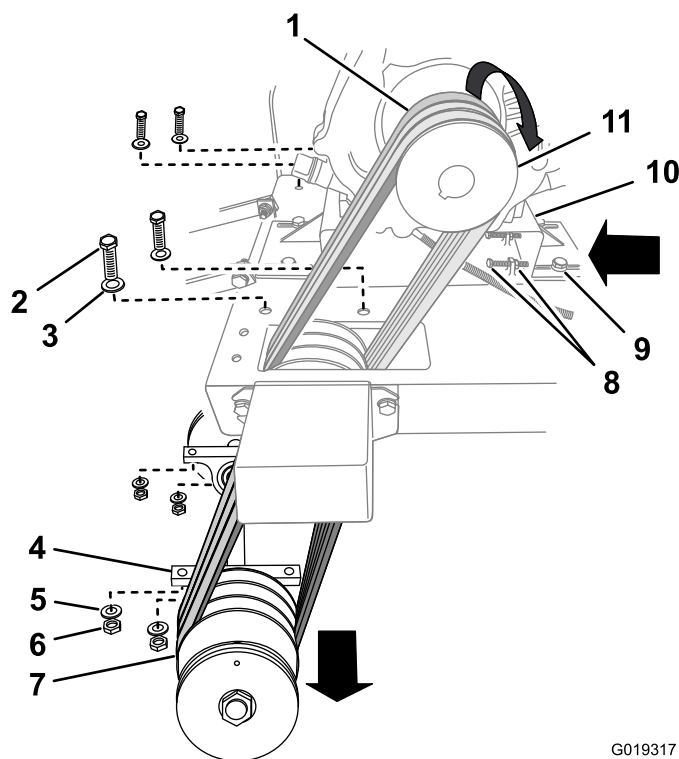

Figure 56
- A. While supporting the arbor shaft, remove the bolts, washers, and nuts that secure the arbor bearing blocks to the bottom side of the base of the machine (Figure 56).
- B. Slip the belts over the drive shaft pulley (Figure 56).
- C. Remove the arbor and belts from the base of the machine (Figure 56).
- A. Align the new belts (or combination of new and serviceable belts) over the arbor pulley (Figure 56).
- B. From beneath the base of the machine, route the belts through the arbor pulley opening and align the arbor bearing blocks to the mounting holes in the base (Figure 56).
- D. Slip the belts over the drive-shaft pulley (Figure 56).